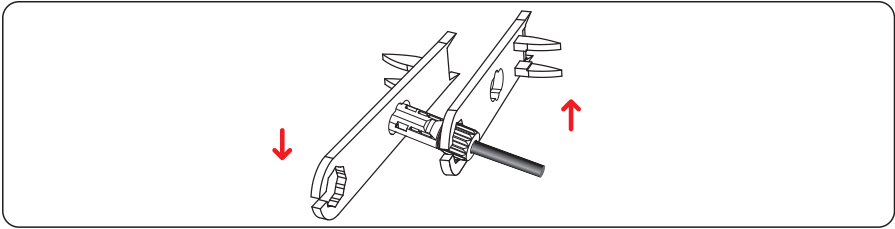

Figure 5.13 Locking connectors
Step 4 Tighten the locking nuts on the positive and negative connectors using a removal wrench, as shown in Figure 5.13.